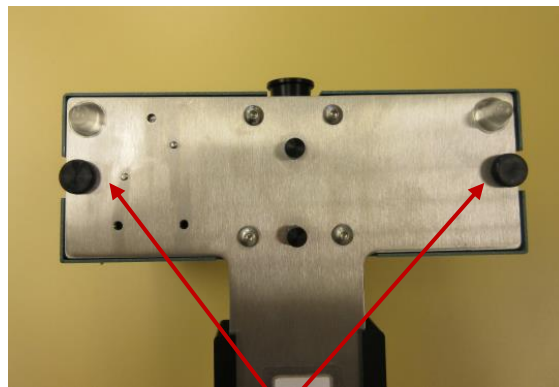

Figure 3.2.7
- Attach cover using thumb screws. *Figure 3.2.7*